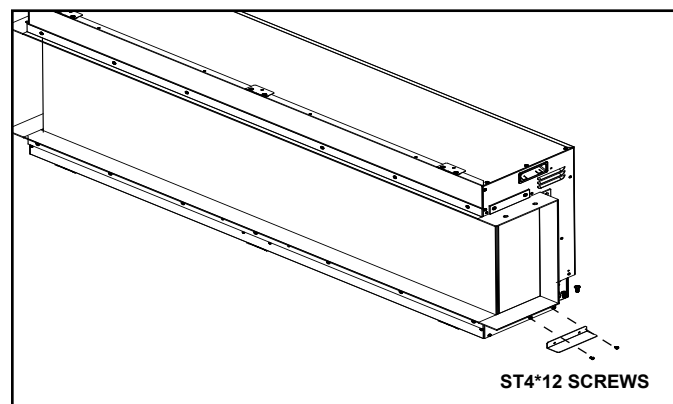

Figure 10
2. Attach the two bottom brackets, one (1) on each side to both sides of the appliance using four (4) ST4*12 screws. See Figure 10.